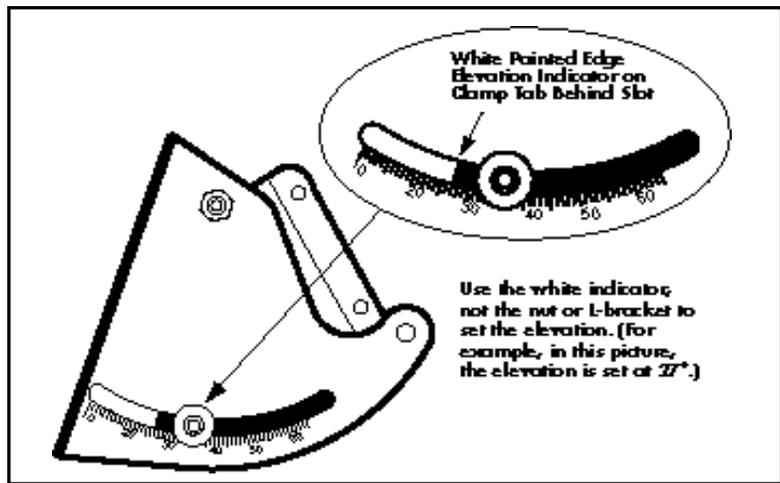

FIGURE 6A
11. **If fine elevation adjustment hardware is not included with your dish model**, then adjust elevation as per Figure 6A. Tighten elevation bolts on both sides.
- Make sure that the elevation indicator is aligned with the edge of metal, not the washer or bolt, per Figure 6A.